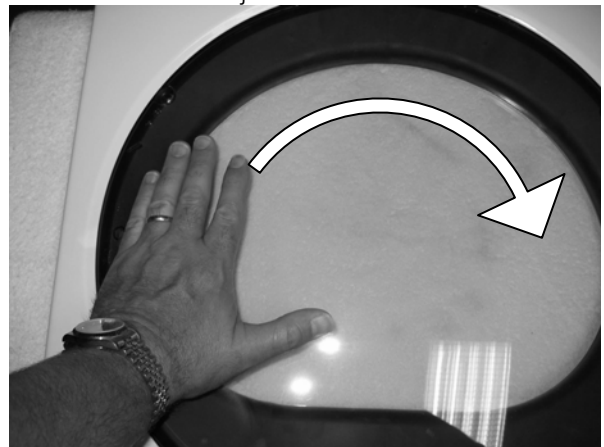

Figure 6
7. Flip door so lens side is facing up. Apply moderate pressure downward and rotate lens 180 degrees so that holes in lens align with transition ring plugs. (Figure 6)